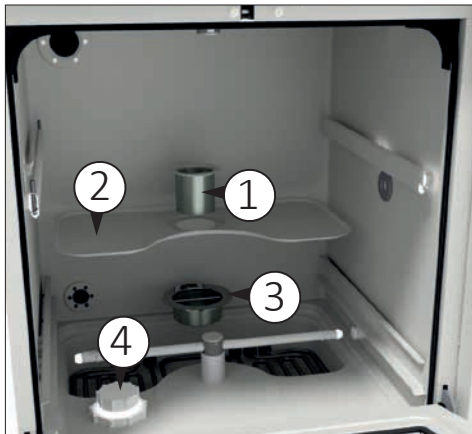

Fig. 11
The salt must be introduced through the chamber outlet inside the tank (4 Fig. 11). To introduce the salt, unscrew the cap (anti-clockwise) and fill the tank with salt funnel, paying attention not to pour salt outside the bowl then close the tank with the cap.
Insert the supplied filters in the specific positions. Constantly check the cleanliness of the filters, especially the chamber bottom filter (3 Fig. 11).
Insert the mesh filter (2 Fig. 11) and place it in the chamber seat. Finally, insert the central filter (1 Fig. 11) in the mesh filter hole.
Filter unit (Fig. 11):
- 6) After running 3-4 washing tests, clean the water filters placed in the lower compartment of the machine (Fig. 11).